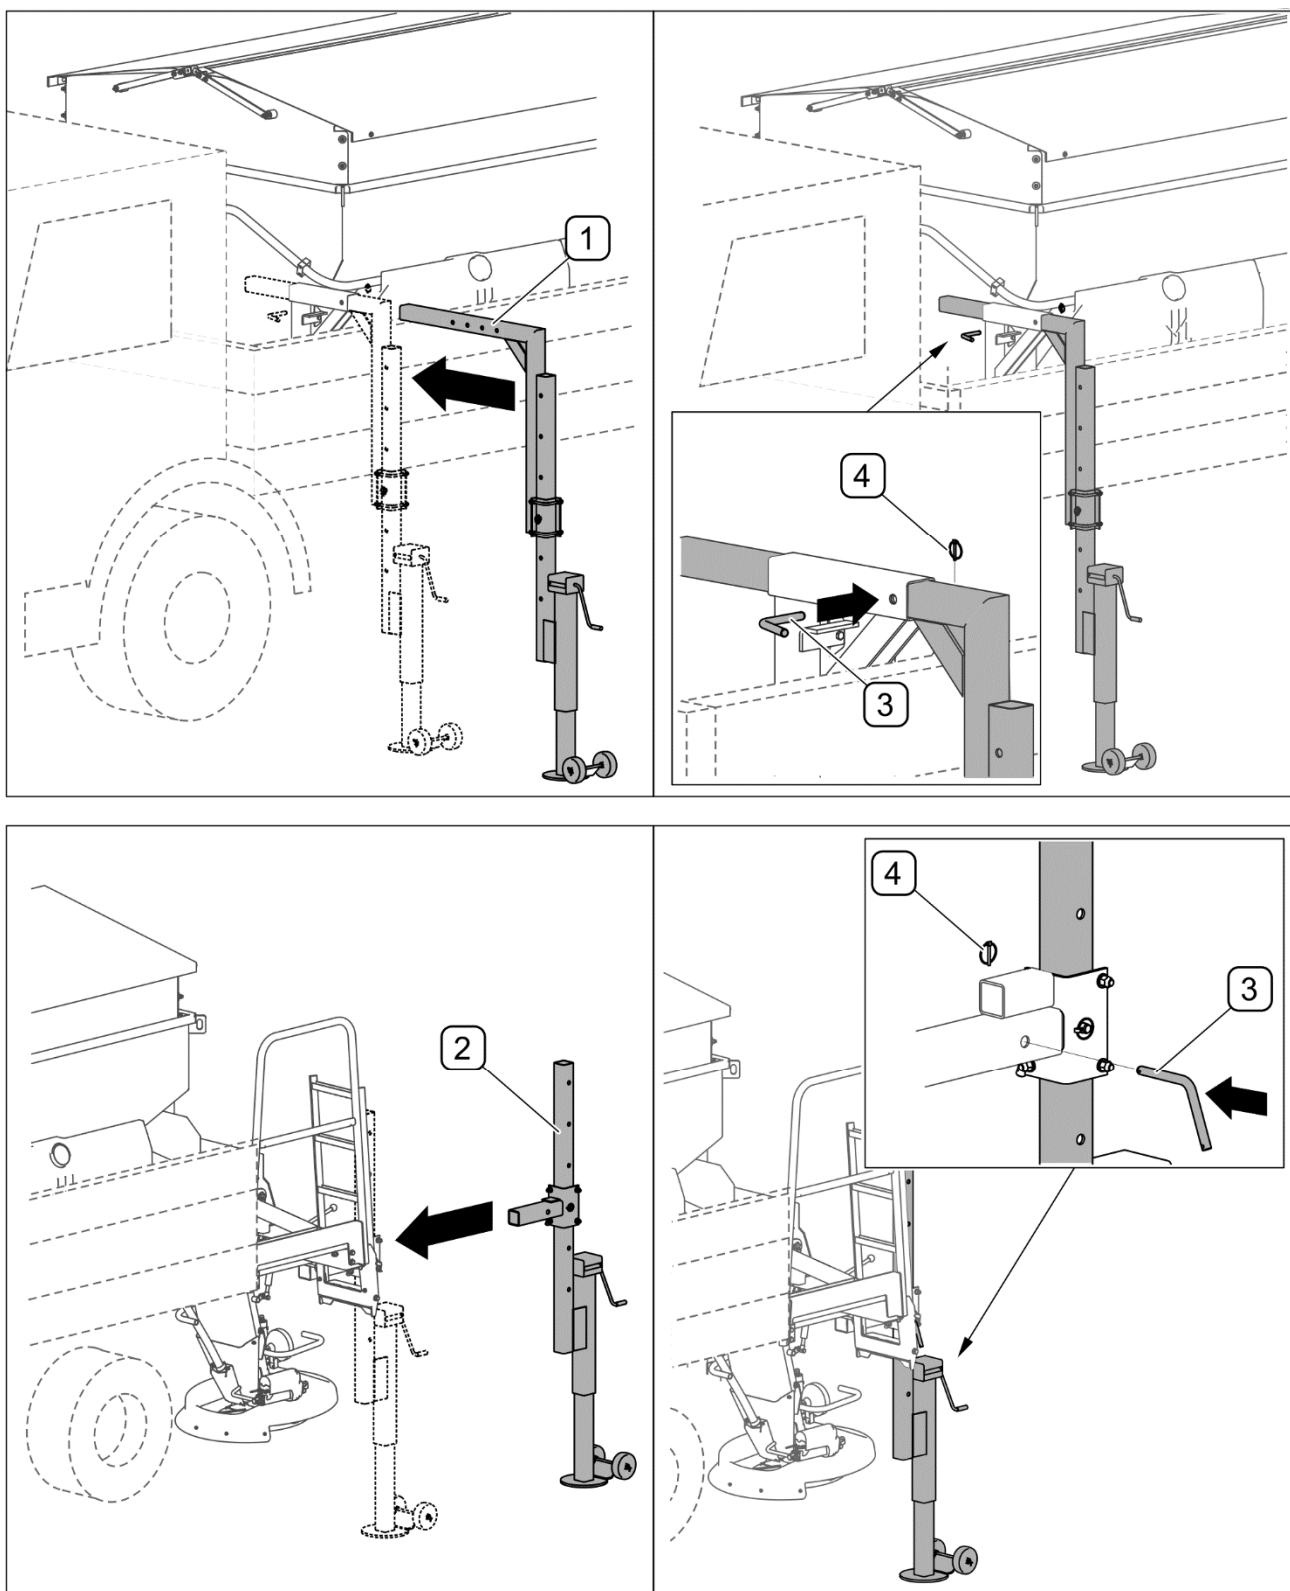

FIG. 4.39 Installing the parking stands
- Install front (1) and rear (2) parking stands (FIG. 4.39) and lock them using (2) linchpins (3) and cotter pins (4).